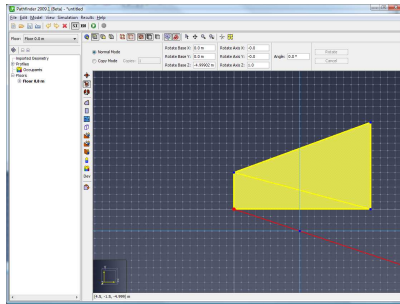

Figure 149. Base point of rotation
- The first specifies the base of rotation (Figure 149).